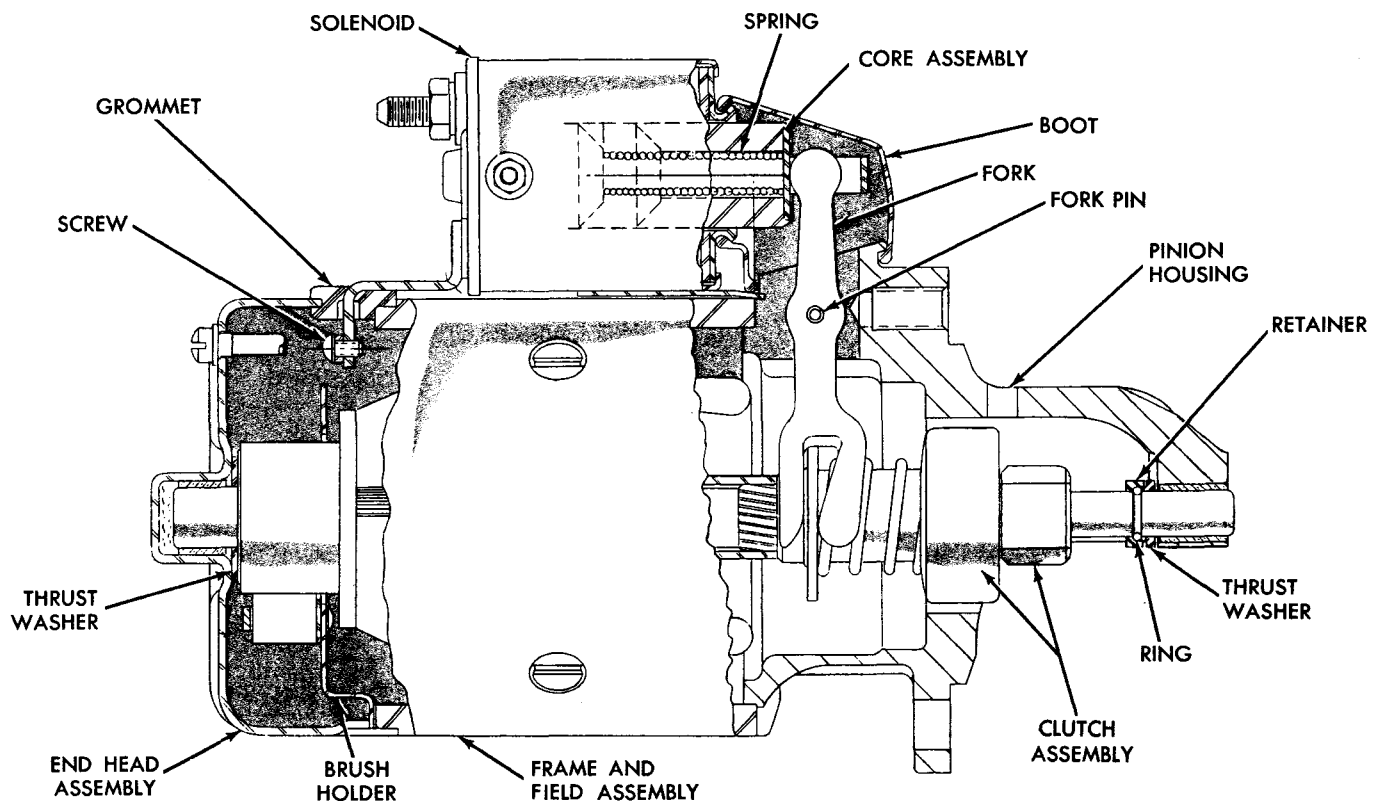
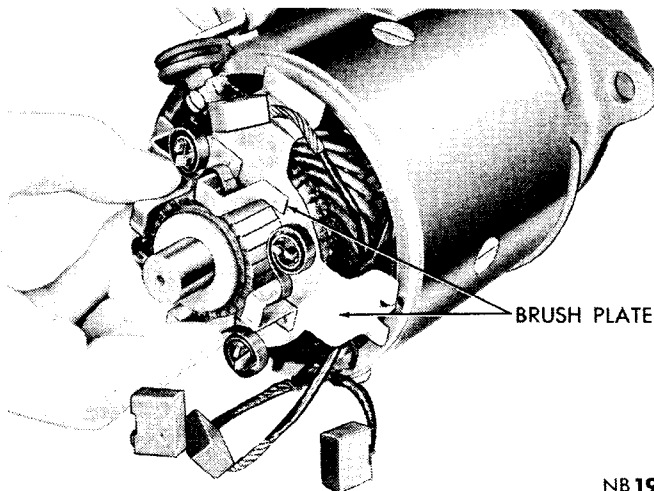

Fig. 1—Starter (Cross Section View)
Fig. 2—Removing Brush Plate
- (1) Refer to Figure 1, remove through bolts and tap commutator end head from field frame.
- (2) Remove thrust washers from armature shaft.
- (3) Lift brush holder springs and remove brushes from brush holders.
- (4) Remove brush plate (Fig. 2).
- (8) Remove drive end pinion housing and spacer washer. Replace the pinion housing assembly, if the rubber seal (Fig. 1) is damaged (units so equipped).
- (9) Note position of shifter fork on starter drive
(1) Remove through bolts and commutator end frame.
(2) Remove brushes from brush holders and remove brush plate (Fig. 2).